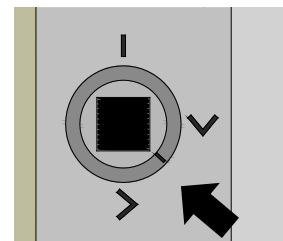

figure 18
- 3) While supporting the weight of the chuck, use the chuck key to turn one of the cams until the cam line is between the two "V" marks on the spindle as shown in (fig. 18).